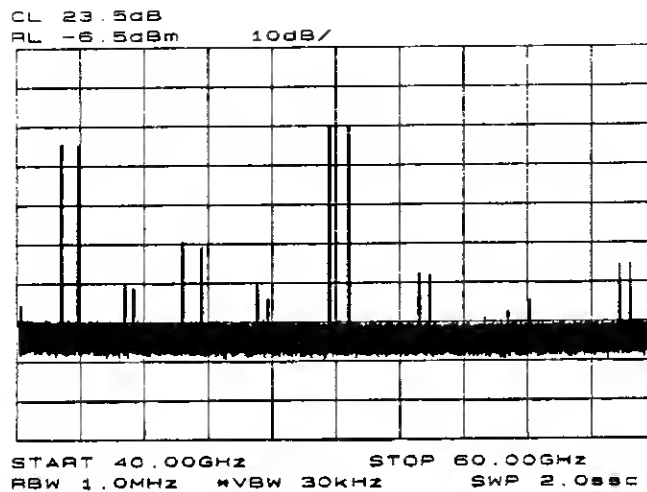

Figure 3-34. Signal responses produced by a 50 GHz signal in U band.
3. The IF output of a harmonic mixer contains many mixer products (frequencies of $LO \pm \text{source}$, $2LO \pm \text{source}$, $3LO \pm \text{source}$... $nLO \pm \text{source}$). As a result, within a single harmonic band, a single input signal can produce many responses, only one of which is valid. These responses come in pairs, where the members of the valid pair are spaced 621.4 MHz apart (see Figure 3-34) and the right-most member for the pair is the correct response (for this analyzer, the left member of a pair is not valid).